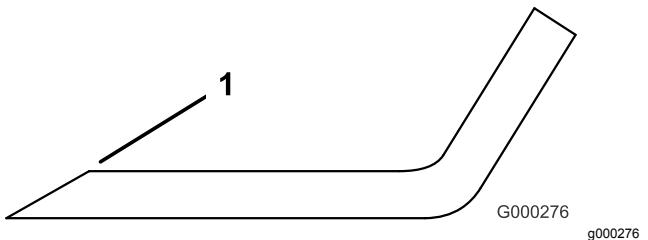

Figure 133
4. Sharpen the cutting edges if they are dull or nicked (Figure 133).